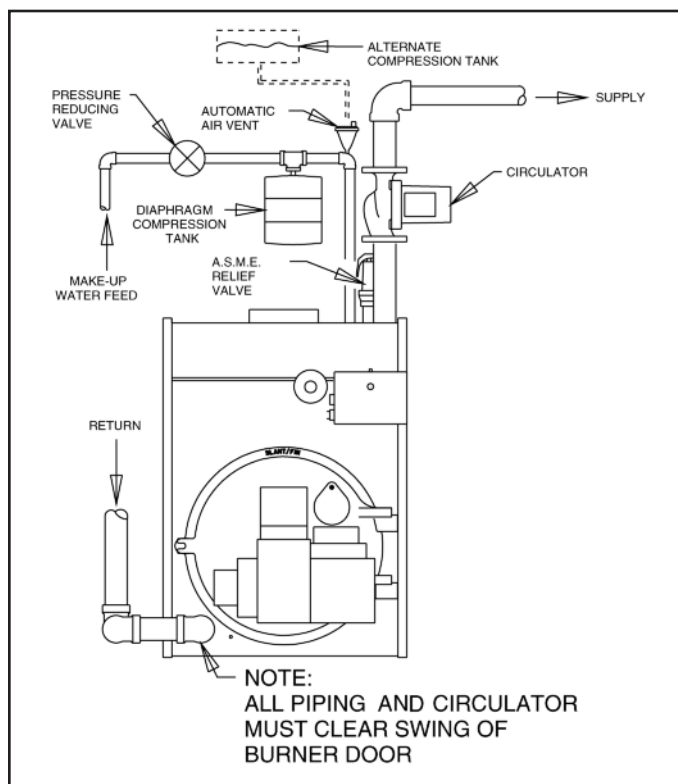
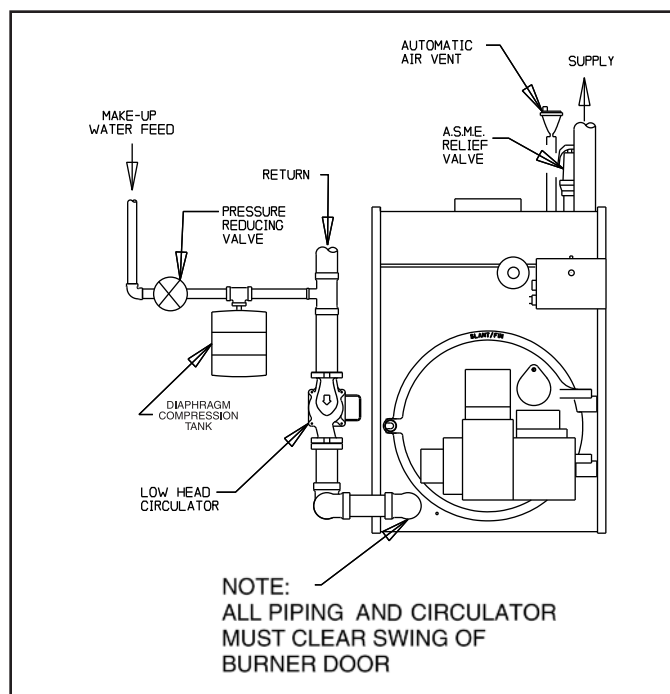

Figure 5. Air Eliminating System or Alternating Collecting System
Figure 6. Alternate Air Eliminating System
- DIAPHRAGM-TYPE COMPRESSION TANKS** are used to control system pressure in an **AIR ELIMINATING SYSTEM**: an automatic air vent is used to REMOVE air from the system water. (See figures 5 and 6)
the boiler, as in figures 5 and 6 and at radiation high points (see "C").
- CONVENTIONAL COMPRESSION TANKS** (non-diaphragm type) are used to control system pressure in an **AIR COLLECTING SYSTEM**. Within the system, after initial start-up and venting, air is collected in the tank and acts in contact with the water to control pressure (see dashed area in figure 5 and paragraph "E"). Air is not vented from this system except at radiation high points (see "C").
If system pressure needs further control, add another tank in parallel with the original tank or install a large capacity tank. Locate the tank at the inlet end of the pump near the boiler. (See figure 5)
- PUMP LOCATION** - Locating low-head pump(s) on return to boiler is only acceptable in residences of one or two stories. (See figure 6) The pump location shown in figure 5 is required in large, multi-story building installations, especially when high-head pumps are used and is also recommended for all applications.
- A conventional compression tank may be connected directly to the 1/2" tapping on the boiler (see "Alternate Compression Tank", figure 5).
The circulator pump should be located on the boiler supply pipe and the expansion tank and air scoop should be located near the pump suction. (as shown in figures 5 and 6) For alternate circulator pump location on return for low-head pumps and one or two story buildings ONLY (see figure 6).